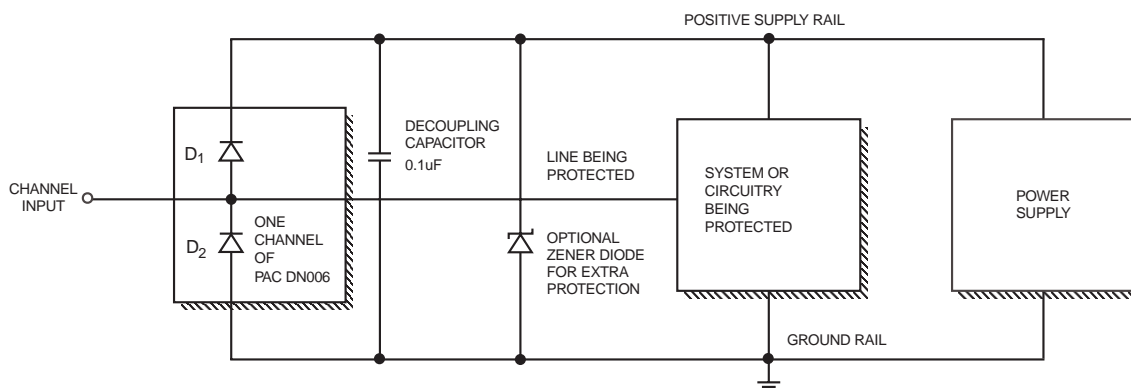
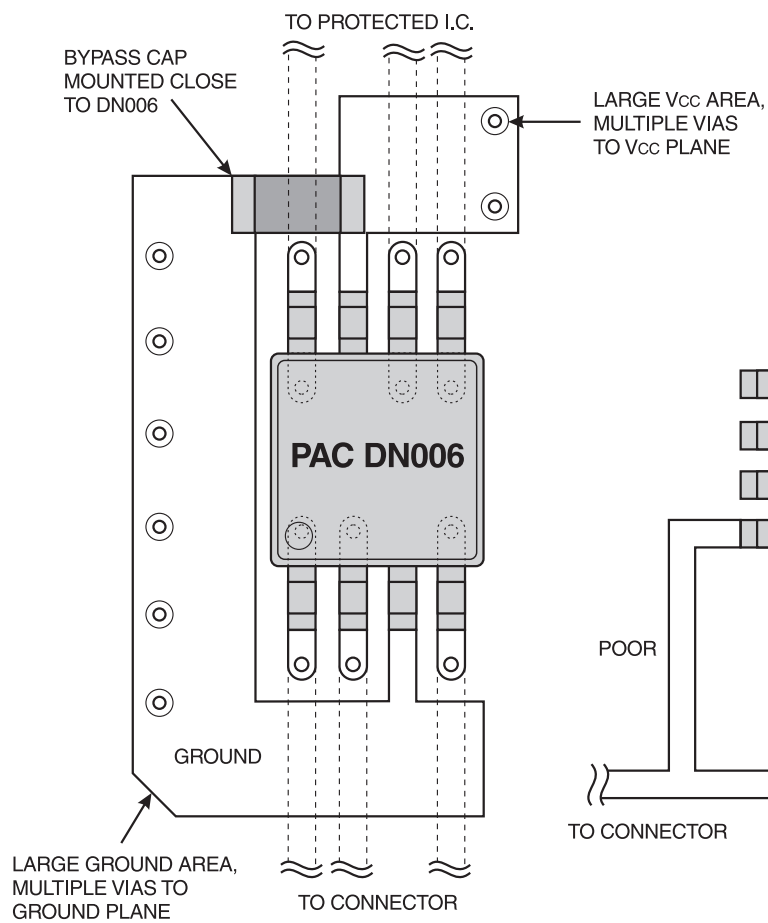

Figure 2
Figure 3
2. The inductance between the connector pin to be protected and the PAC DN006 channel input pin must be kept to a minimum. (If there is a large inductance here, the ESD event will find a lower impedance path which will more likely be through the device to be protected.) Figure 2 shows the implementation schematic and Figure 3 shows a possible layout for the PAC DN006. In Figure 3, notice the large V_{CC} and ground areas with multiple via connections to the underlying reference planes and the positioning of the bypass capacitor. Note how the signal lines to be protected flow from the connector to the PAC DN006 and then out to the device to be protected (Figures 3, 4, and 5). This daisy chaining provides a low impedance path from the connector to the PAC DN006 and a higher impedance path from the PAC DN006 to the protected device.